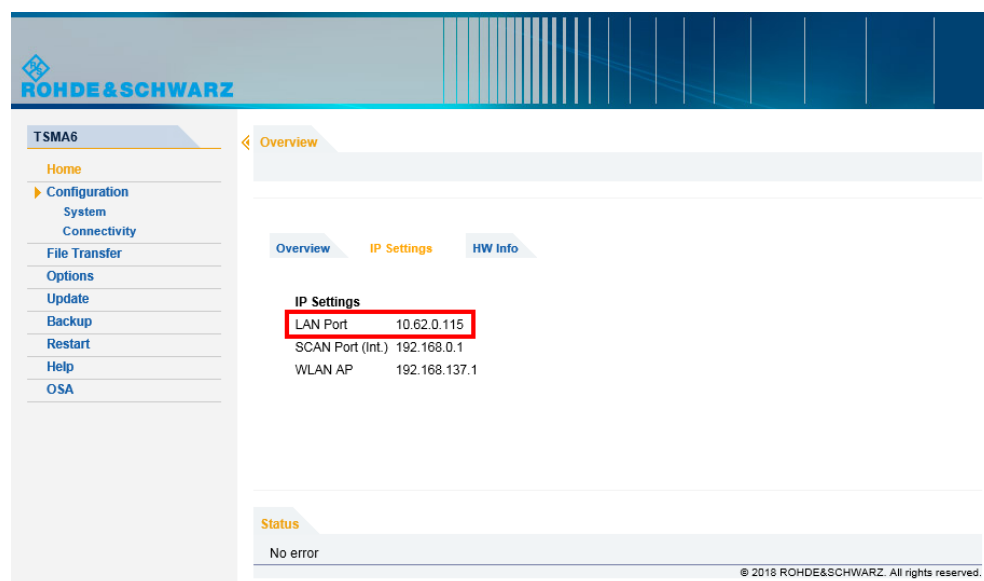

Figure 11-4: Web GUI - Overview > IP Settings
See Figure 11-4.
1. Use the IP address displayed in the R&S TSMa6 web GUI (see Figure 11-4).